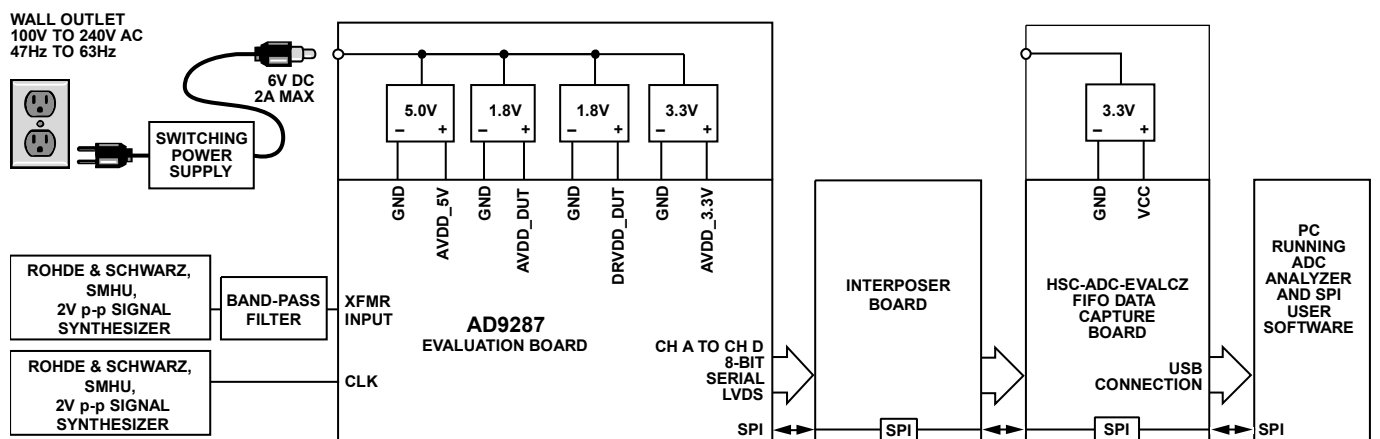
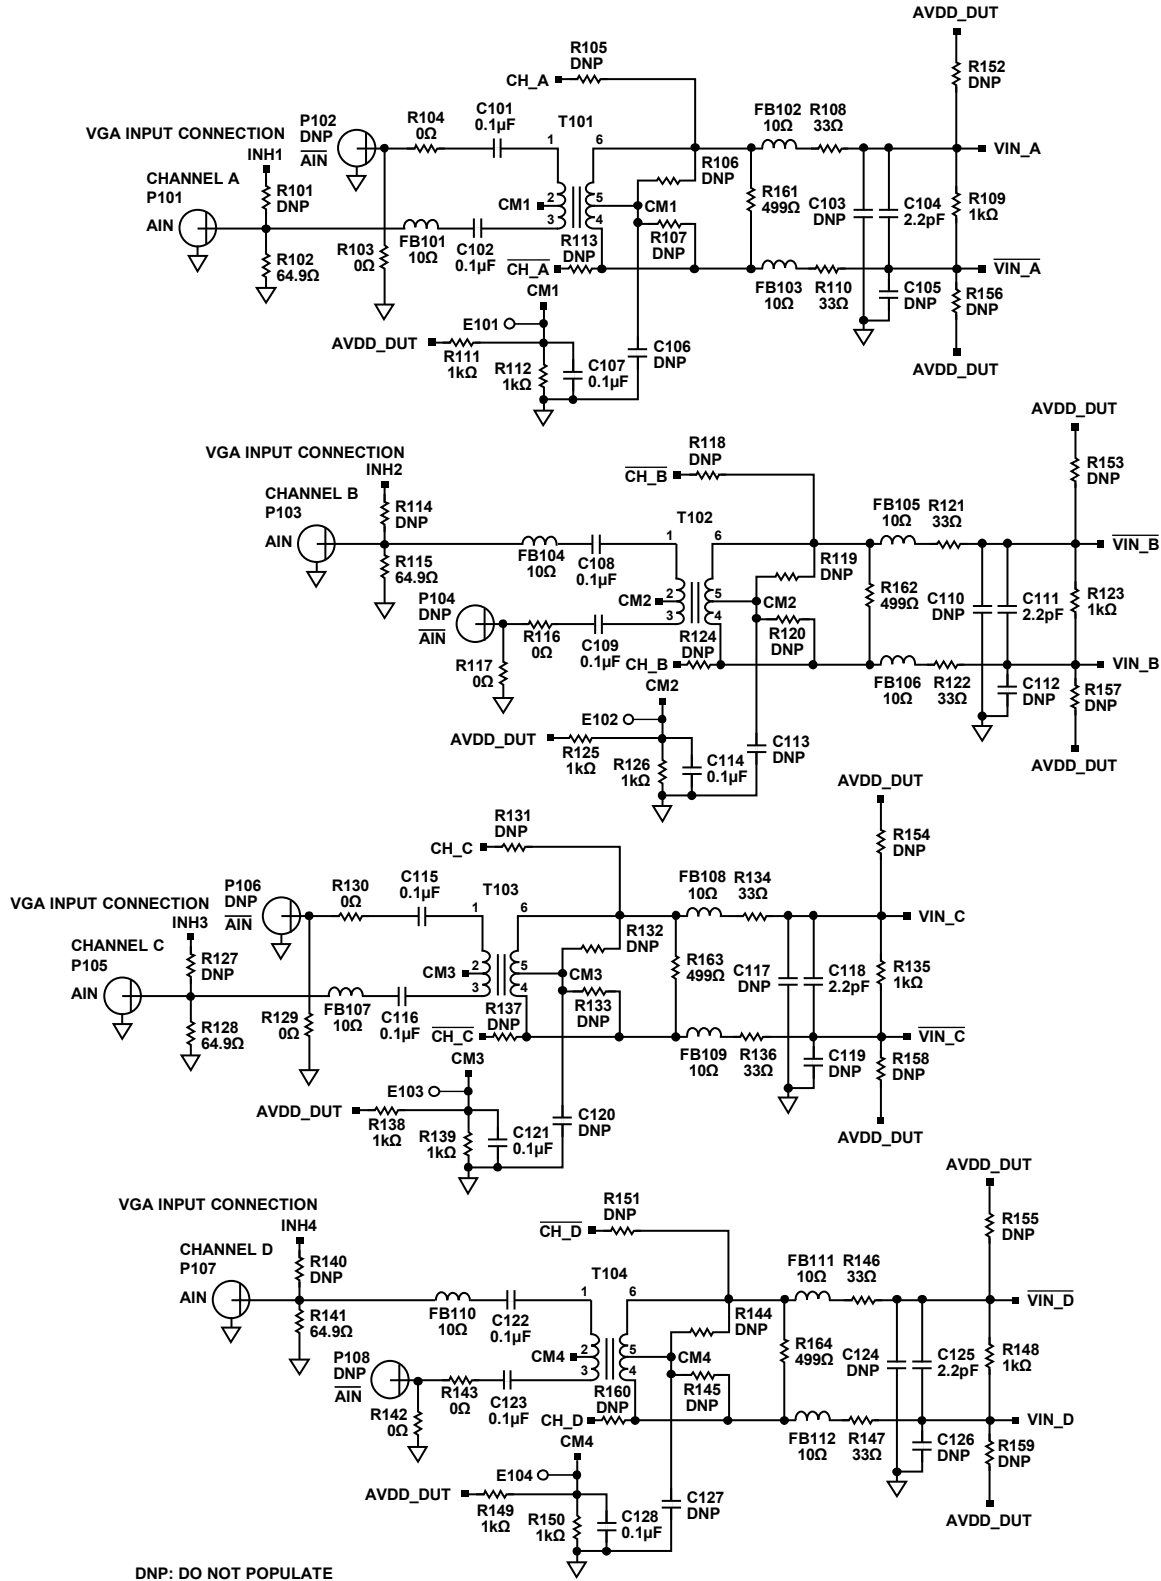

Figure 60. Evaluation Board Connection
Figure 62. Evaluation Board Schematic, DUT Analog Inputs
The AD9287 evaluation board provides all of the support circuitry required to operate the ADC in its various modes and configurations. The converter can be driven differentially using a transformer (default) or an AD8332 driver. The ADC can also be driven in a single-ended fashion. Separate power pins are provided to isolate the DUT from the drive circuitry of the AD8332. Each input configuration can be selected by changing the connection of various jumpers (see Figure 62 to Figure 66). Figure 60 shows the typical bench characterization setup used to evaluate the ac performance of the AD9287. It is critical that the signal sources used for the analog input and clock have very low phase noise (<1 ps rms jitter) to realize the optimum performance of the converter. Proper filtering of the analog input signal to remove harmonics and lower the integrated or broadband noise at the input is also necessary to achieve the specified noise performance.
See Figure 62 to Figure 70 for the complete schematics and layout diagrams demonstrating the routing and grounding techniques that should be applied at the system level.
- **D + x, D - x:** If an alternative data capture method to the setup shown in Figure 60 is used, optional receiver terminations, R206 to R211, can be installed next to the high speed backplane connector.